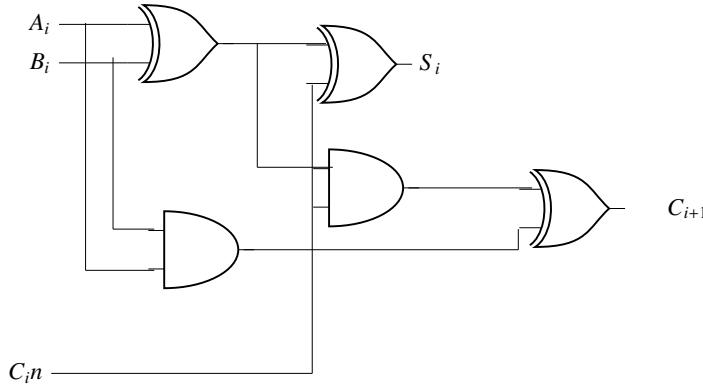

Fig. 4.18
33. Fig. 4.18 below shows the i^{th} full-adder block of a binary adder circuit. C_i is the input carry and C_{i+1} is the output carry of the circuit. Assume that each logic gate has a delay of 2 nanosecond, with no additional time delay due to the interconnecting wires. Of the inputs A_i , B_i are available and stable throughout the carry propagation, the maximum time taken for an input C_i to produce a steady-state output C_{i+1} is _____ nanosecond. (GATE IN 2019)